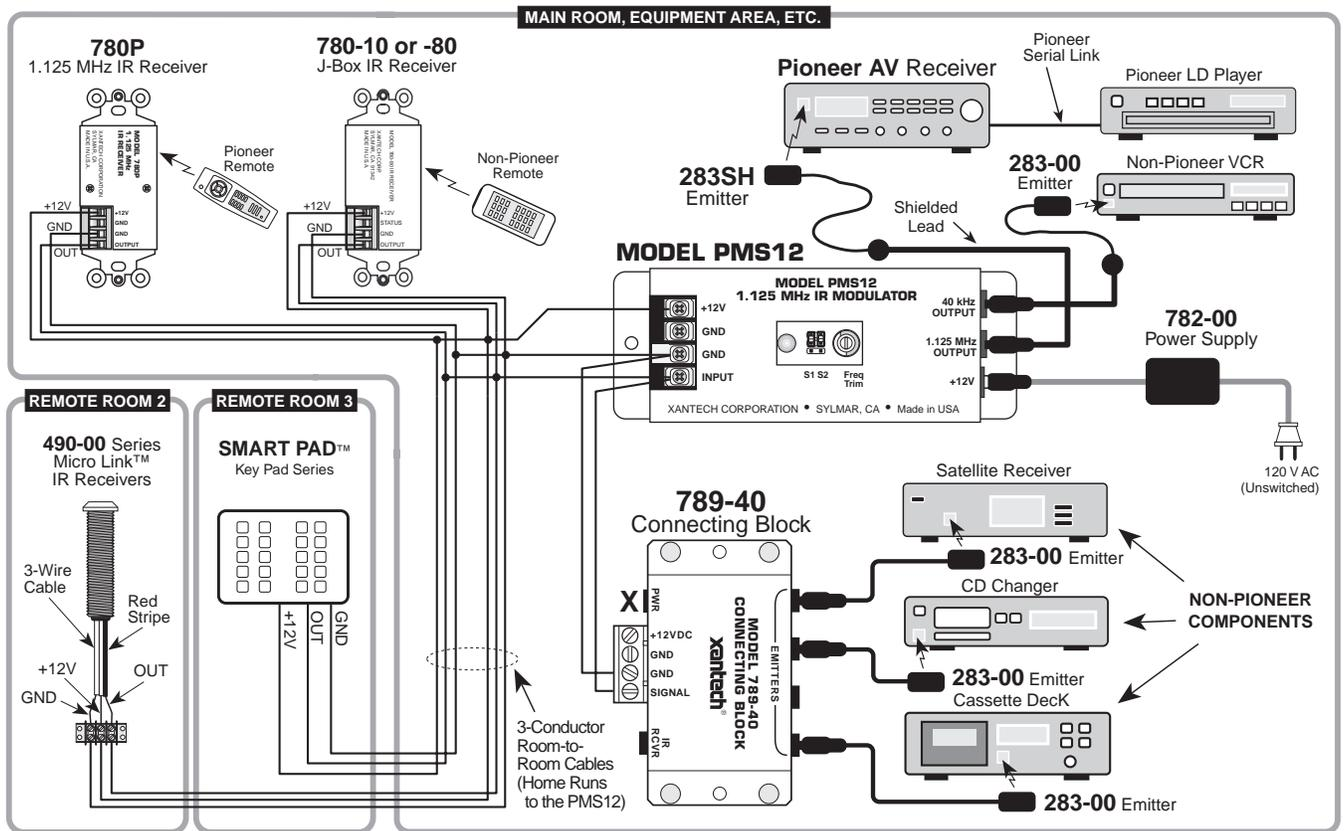

Fig. 2 Multi-Room Repeater System
VCR programming). In these situations, install a standard Xantech IR receiver in addition to the P-Series model. Connect them both, via 3-conductor cables, to the +12V, GND and INPUT terminals on the PMS12 as shown in Fig. 2.
b) If you need to control more than two components, you may add a 789-40 Connecting Block wired in parallel to the +12V, GND and INPUT terminals on the PMS12, as shown in Fig. 2, to drive up to 4 single or 4 dual emitters. *Do not use a power supply on the 789-40 in this case.*
c) If even more emitters are needed, a 791-40 Amplified Connecting Block may be used. In this case, connect a "mono-mini-plug-to-bare-wire" cable between the 40 KHz OUTPUT port on the PMS12 and the INPUT and GROUND terminals on the 791-40. *Do not connect the 791-40 in parallel with the PMS12 input as shown for the 789-40 in Fig. 2.* To do so will cause signal loss to the PMS12 and possible in-operation.